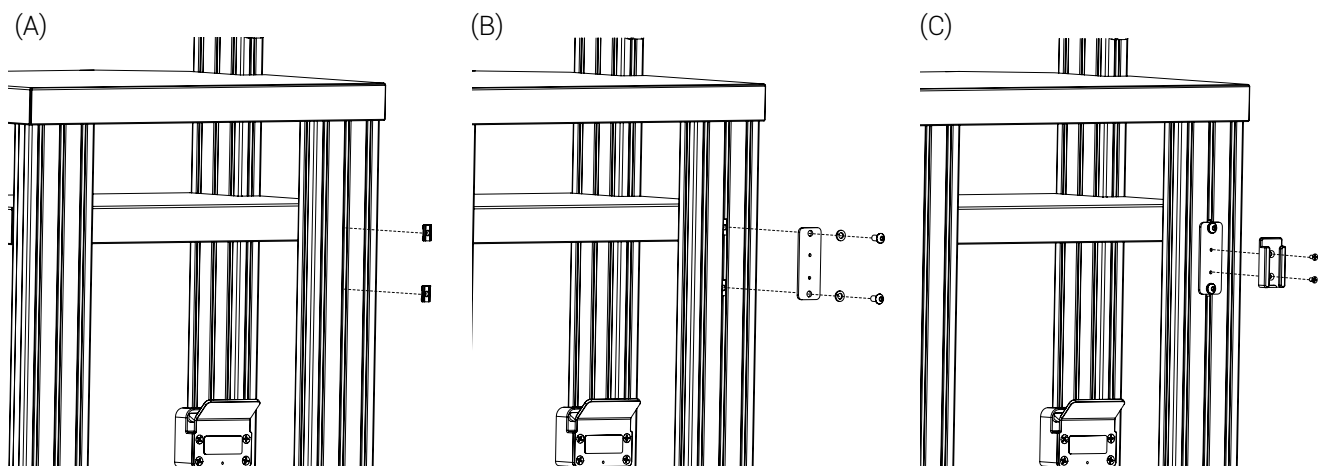

Figure 17: Installation of the support plate and Serres adapter
1. Ensure to have applied all four (4) brakes on the transport cart.
2. Insert two (2) sliding T nuts on the vertical rail of your choice (Figure 17 A). The rail chosen for the installation of the Serres suction canister depends on the specific positioning needs of the equipment.
3. Align the screw holes of the support plate and the sliding T nuts, then only partially tighten the two (2) button head hex socket screws 5/16-18 X 5/8 in. and two (2) lock washers, using a screwdriver and Allen key 3/16 in. (Figure 17 B).
4. Install the Serres adapter on the support plate using two (2) flat head Phillips screws and a screwdriver (Figure 17 C).